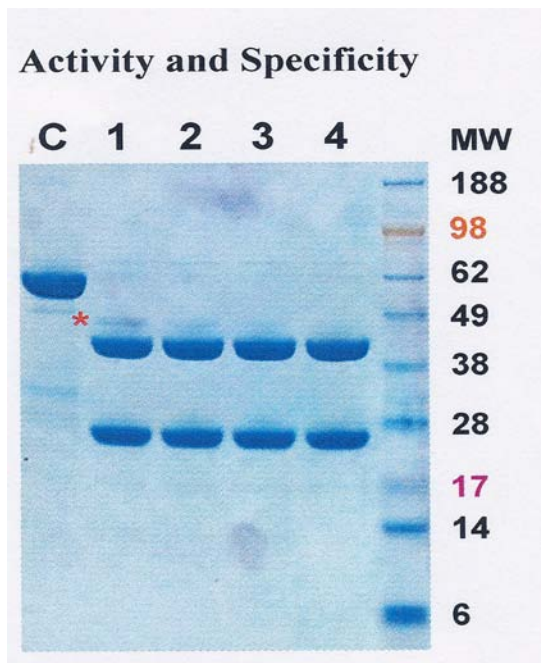

FIGURE 1
**CLEAVAGE CONDITION:** It is recommended to use HRV3C Protease at a protease-to-target protein ratio of 1:100 (w/w) or 1 unit of HRV3C Protease to 100  $\mu$ g of target protein in a buffer suitable for the target protein at 4°C overnight, with the target protein concentration at 1-2 mg/ml. In most cases, target proteins are completely cleaved with a protease-to-target protein ratio of 1:50 to 1:400 or 1 unit HRV3C Protease 50-400  $\mu$ g of target protein (as shown in Figure 1). The efficiency of cleavage may vary due to the sequences around the cleavage site, the conformation and the solubility of the target protein. Due to its high specificity, more HRV3C Protease (at 1:10 ratio) or longer cleavage time (over a weekend) at higher temperature (37°C) can be used to achieve high cleavage efficiency without non-specific cleavage of target proteins.